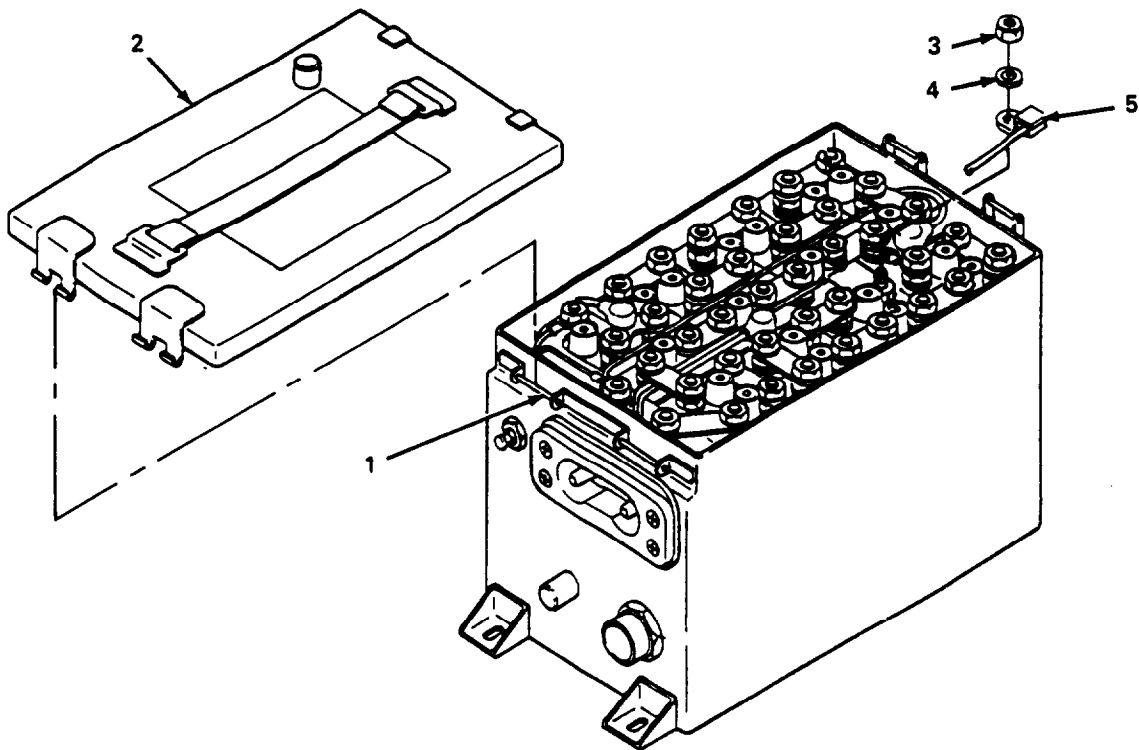

Figure 3-22. Battery BB-558/A Wiring Harness Temperature Sensor Replacement
- (p) Install thermostat (11) on thermal plate (12) and secure with nut (10).
- (q) Install thermal plate (12).
- (r) Carefully install cell (9) be sure not to damage heating element.
- (s) Install any shims, removed to obtain a tight fit. Be careful when installing shims between cell (9) and heating elements, install the first shim between the cell (9) and heating element and install all remaining shims between the first shim installed and cell (9).
- (t) Install link (8) and secure with nut (6) and washer (7). Torque nuts to 80-94 in-lb.
- (u) Install link (5) and secure with nut (3) and washer (4). Torque nuts to 80-94 in-lb.
- (v) Install and close cover (2) and secure with two latches (1).
(6) Temperature Sensor Replacement (fig. 3-22).
- (a) Unsnap two latches (1) and remove cover (2).